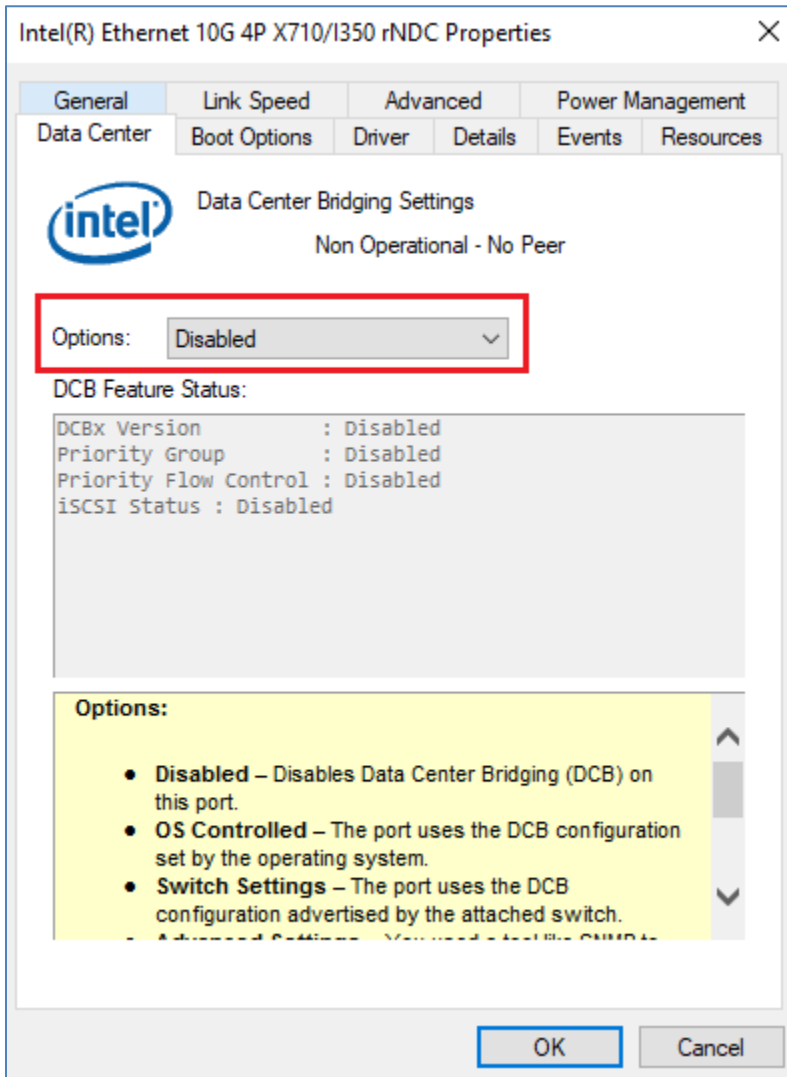

Figure 23 DCB disabled on X710 network adapter port
3. Click on the **Data Center** tab and ensure **Options** is set to **Disabled** as shown in Figure 23.